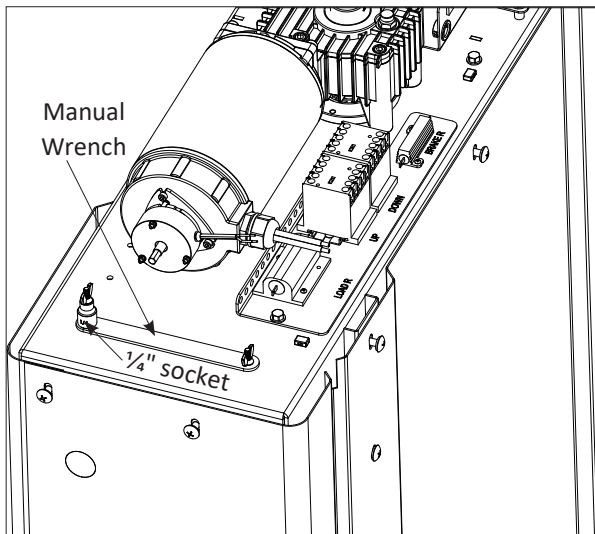

Figure 6-9
3. Remove the two wingnuts holding down the manual lowering tools ($\frac{1}{4}$ " wrench and $\frac{1}{4}$ " x $\frac{3}{8}$ " drive socket). *See Figure 6-9.*